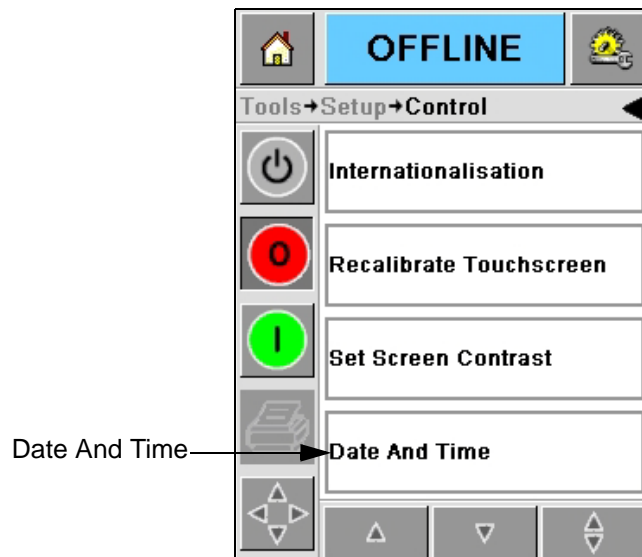

Figure 5-23: Control Screen
- 1 Navigate to *Tools > Setup > Control* from the Home screen. The *Control Screen* appears (Figure 5-23).
- 2 Select the *Date and Time* from the list displayed (Figure 5-23).